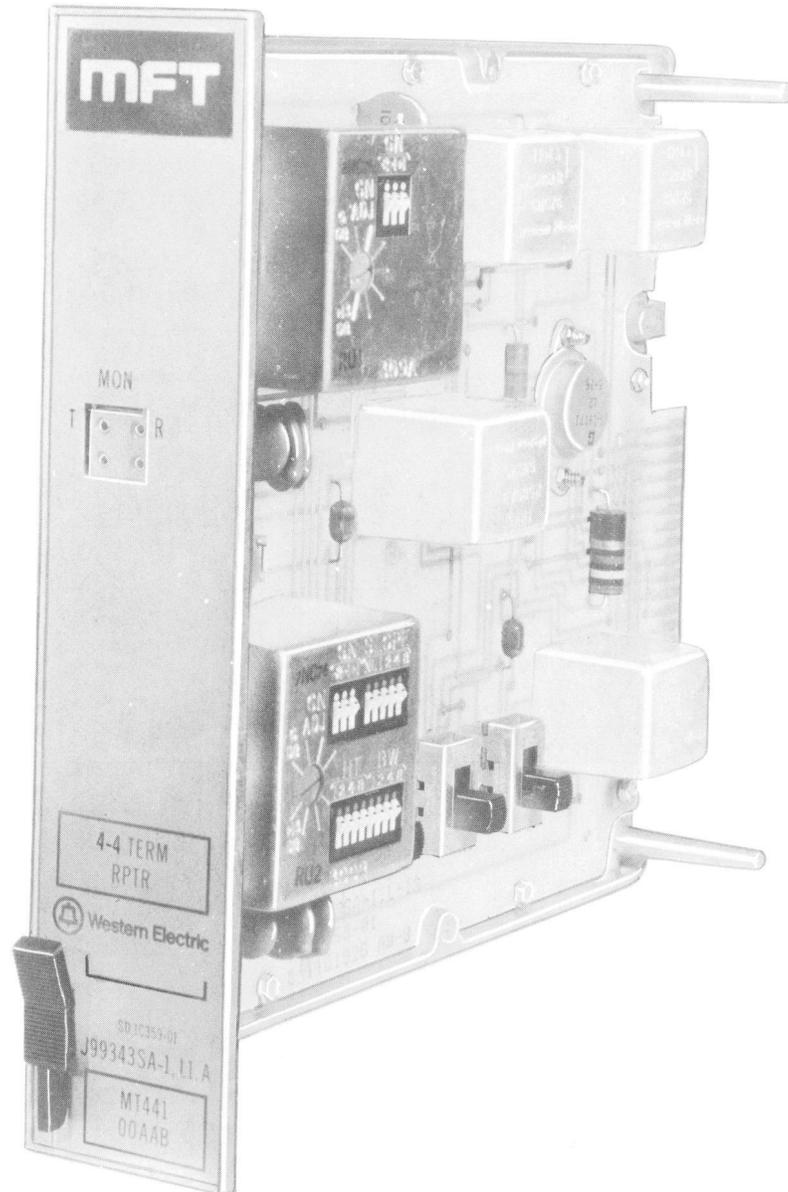

Fig. 1—4-4 Terminal Repeater J99343SA
**2.01** A photograph of the 4-4 terminal repeater is shown in Fig. 1. The front panel contains an identification label and a 4-terminal monitor jack.